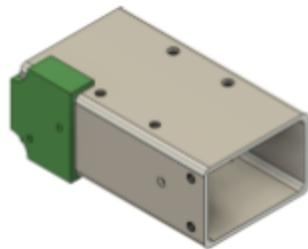

Figure 9.2
7. Position Assembly Tool #8 on the front face of the top Z-Axis roller beam with the number on the printed part facing the beam and all tabs securely holding position as shown in Figure 9.2.